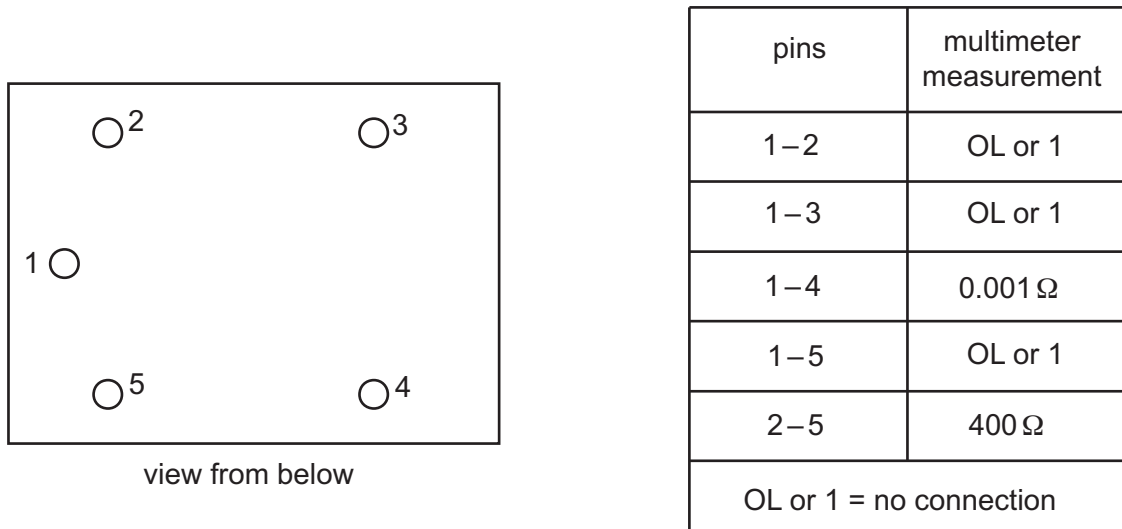

Fig. 11.4
- (v) Fig. 11.4 shows the relay outline and a table of test results.